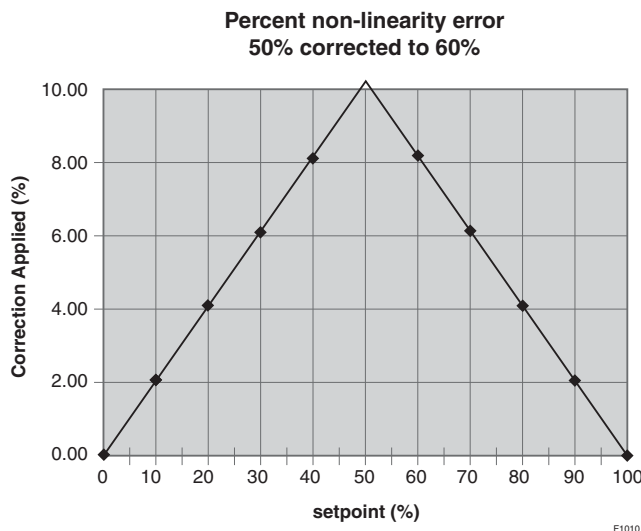

Figure 10.10 Non-linearity Travel Correction
- Step 7 When the valve is at the desired 50% position (refer to the mechanical travel indicator on the valve), click the Apply Calib. Button. A dialog appears to confirm that you want to apply the calibration. Click Yes. This provides non-linearity correction with two line segments as shown in Figure 10.10, in which "55" was entered in the Current Target Position. Note that 55 is an extreme correction!